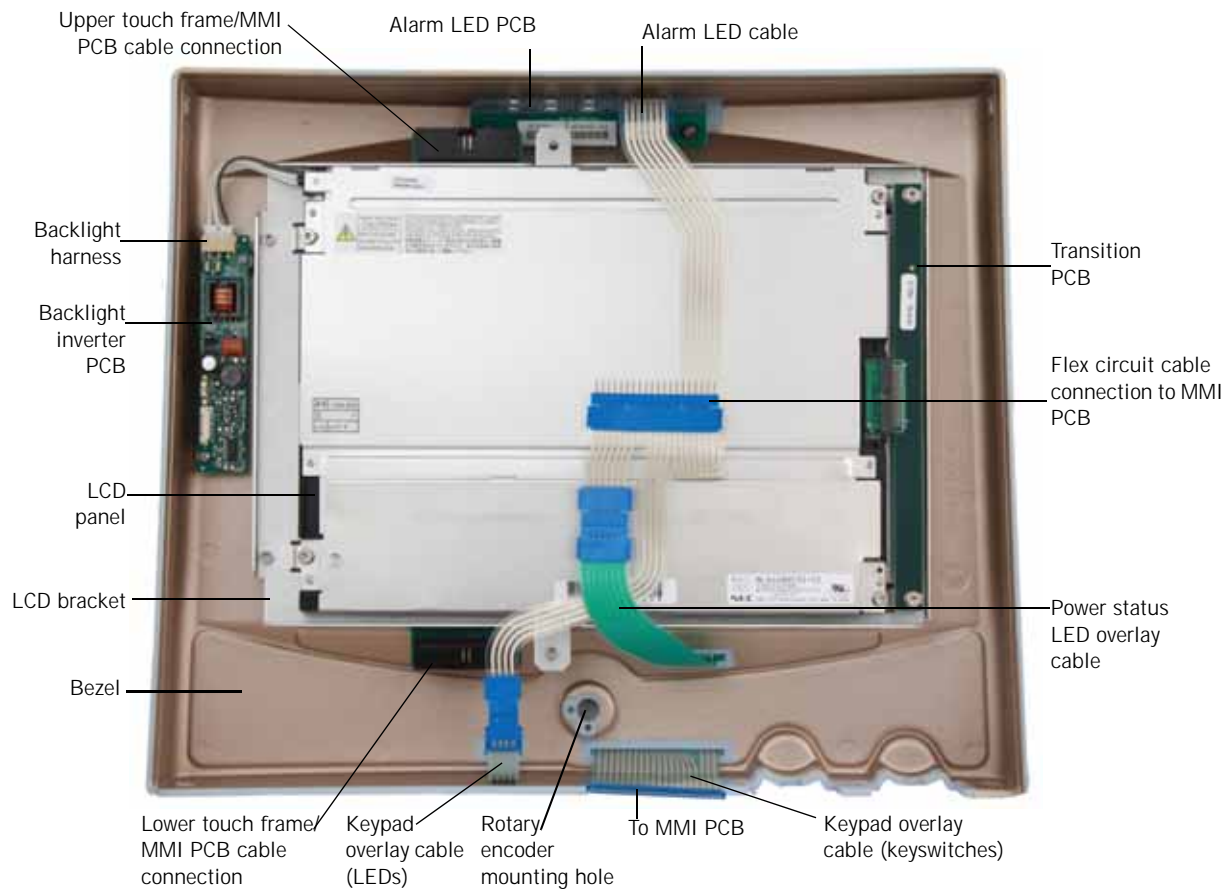

Figure 10-8: GUI Assembly Removed
5. Set the GUI face down on a soft, flat surface (Figure 10-8).
2. Disconnect the backlight harness from the backlight inverter PCB (Figure 10-8).
Follow these steps to remove the transition PCB (Figure 10-8). Reverse removal steps to install.
Follow these steps to remove the LCD panel (Figure 10-8). Reverse removal steps to install.
NOTE: When reconnecting ribbon cables, refer to Figure 10-8 for proper flex circuit cable connector orientation.
Follow these steps to remove the touch frame and alarm LED PCB (Figure 10-8). Reverse removal steps to install.